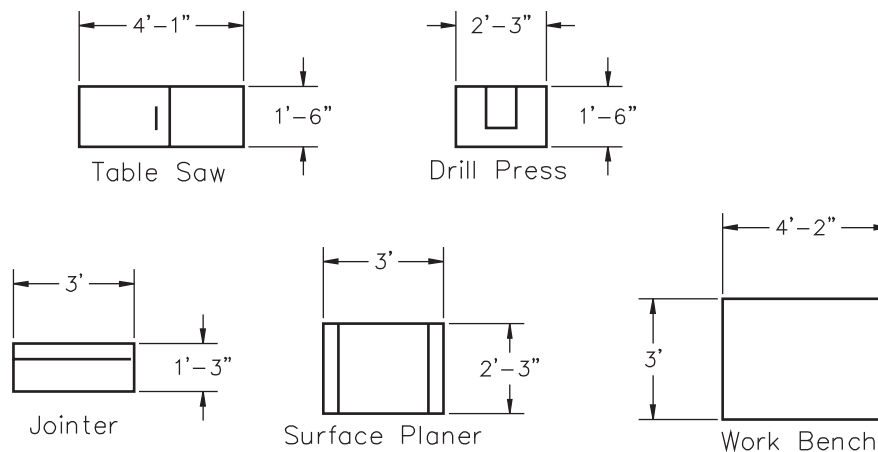

Fig. 35-3
4. Create the schematic representations of tools shown in Fig. 35-3. Set snap at **3"**. Construct each tool on layer **0**. Omit the text.
- Use the names shown in Fig. 35-3.